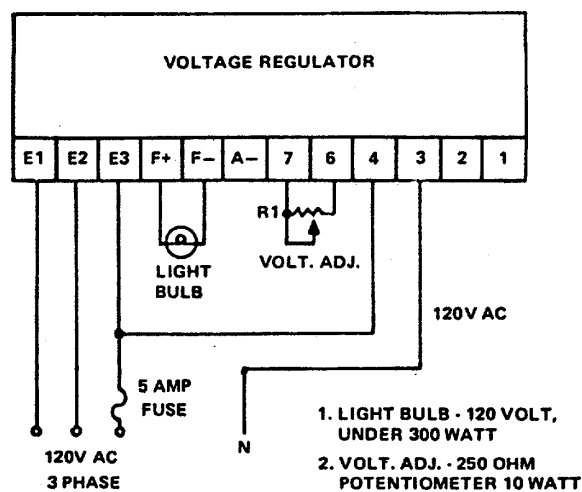

Figure 4-7. Voltage Regulator, Test Setup
4-19. TEST. The voltage regulator is tested to determine operational capability, as follows (see figures 4-7 and 4-8).
- (1) Connect voltage regulator as shown in test setup, figure 4-7.
- (2) Disconnect leads from transformer T1 primary, and connect to the 120 volt input tap.
- (3) Mark position of potentiometer R4 on voltage regulator.
- (4) Set potentiometer R4 on voltage regulator fully counterclockwise.
- (5) Adjust potentiometer R1 (in figure 4-7), for maximum resistance.
- (6) Slowly adjust R1 toward minimum resistance. Before reaching minimum resistance, light bulb should come on to near full